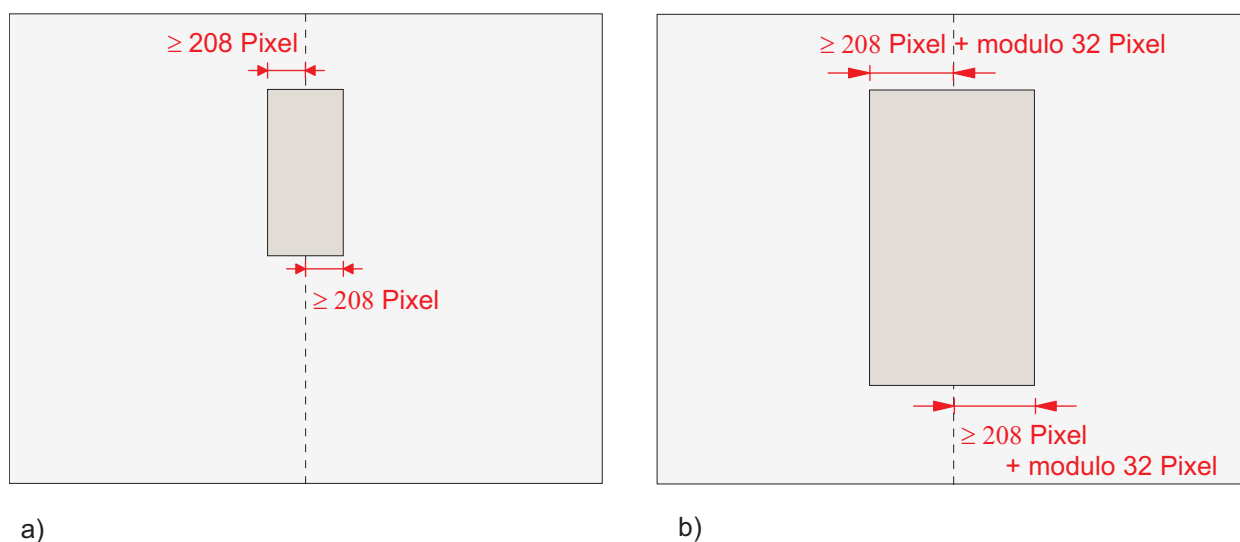
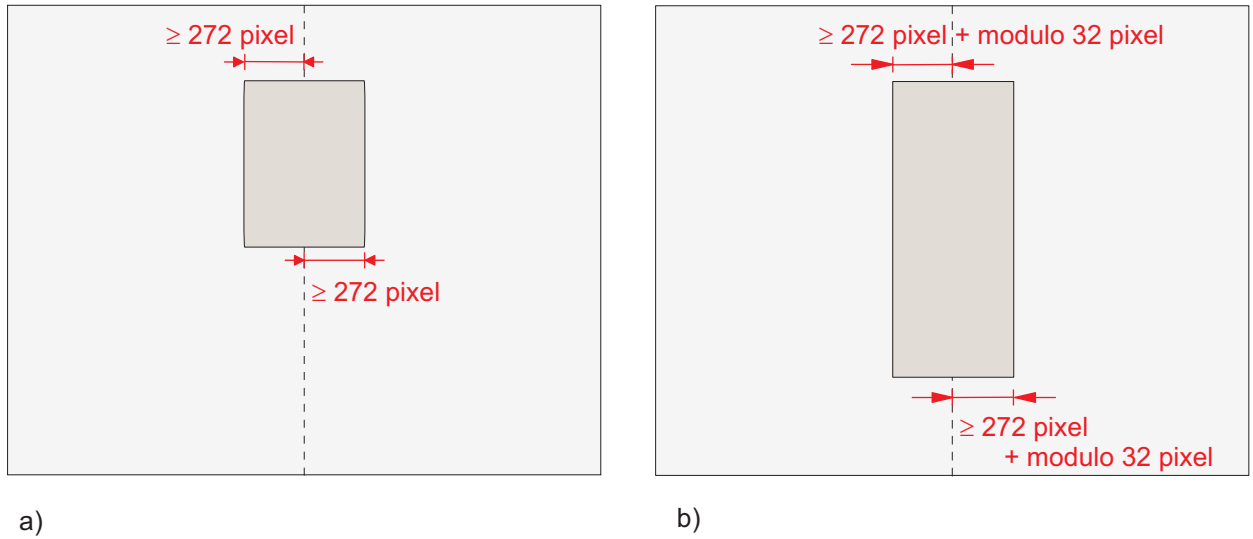

Figure 4.18: Possible configuration of the region of interest with SM2-D1312(IE)-TI6455-80 CMOS camera
Figure 4.19: Possible configuration of the region of interest with SM2-D1312(IE)-TI6455-160 CMOS camera
Some applications do not need full image resolution (e.g. 1312 x 1082 pixels). By reducing the image size to a certain region of interest (ROI), the frame rate can be increased. A region of interest can be almost any rectangular window and is specified by its position within the full frame and its width (W) and height (H). Fig. 4.18 and Fig. 4.19 show possible configurations for the region of interest, and Table 4.3 presents numerical examples of how the frame rate can be increased by reducing the ROI.
The minimum width must be positioned symmetrically towards the vertical center line of the sensor as shown in Fig. 4.18 and Fig. 4.19). A list of possible settings of the ROI for each camera model is given in Table 4.5.